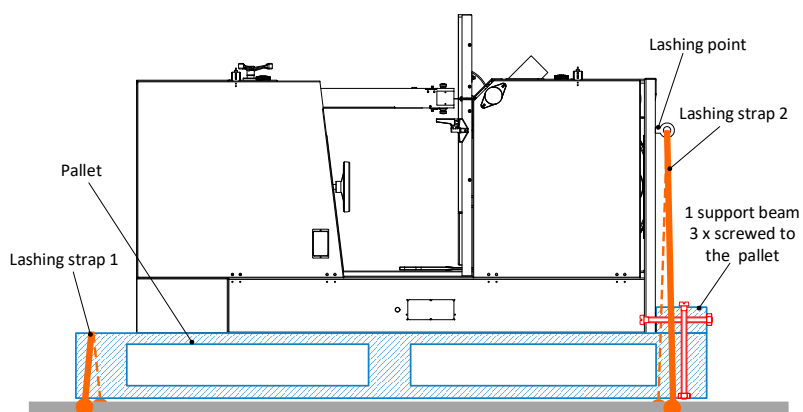

Figure 11: Lashing models RAPID 700 / 800 / 900
- There is a lashing point for lashing strap 1 (⇒ Figure 11) under the machine base. The pallet is directly lashed with lashing strap 2.